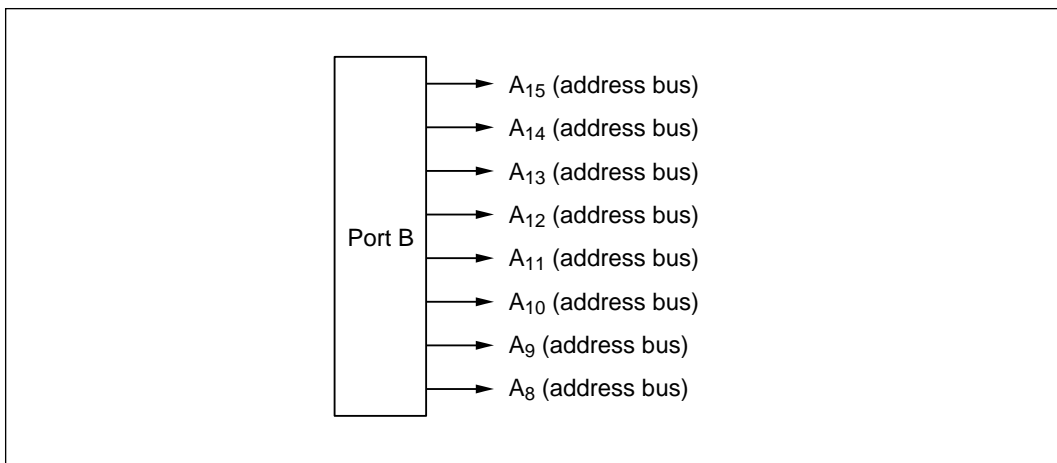

Figure 10-75 Pin Functions in Modes 1, 3, 5, and 6
(1) Pin Functions in Modes 1, 3, 5, and 6: Port B is used for address output (A₁₅ to A₈). The PBDDR settings are ignored. Figure 10-75 shows the pin functions in modes 1, 3, 5, and 6.